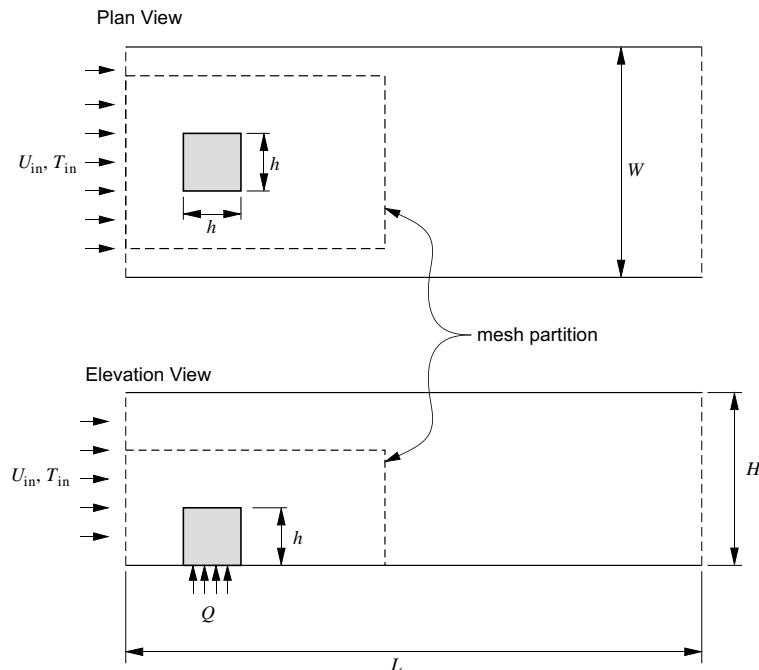

Figure 1: Geometry of the cubic block in the rectangular duct.
Figure 1 gives the plan and elevation views of the geometry. A cubic block of dimension  $h$  is situated near the inlet of a rectangular duct of height  $H$  and width  $W$ . The fluid (air) entering the duct has a uniform velocity  $U_{in}$ , and temperature  $T_{in}$ . The dashed box shown in the plan view indicates a
4. Sketch a  $300\text{ mm} \times 120\text{ mm}$  rectangle on the work plane. (See Figure 1.) Fix the dimensions of this rectangle and extrude it a distance  $H = 90\text{ mm}$  to create the fluid volume of the duct.
- Sketch the plan view of the dashed rectangle in Figure 1. Dimension the rectangle to be 60 mm wide (across the duct) and at least 100 mm long (in the flow direction).